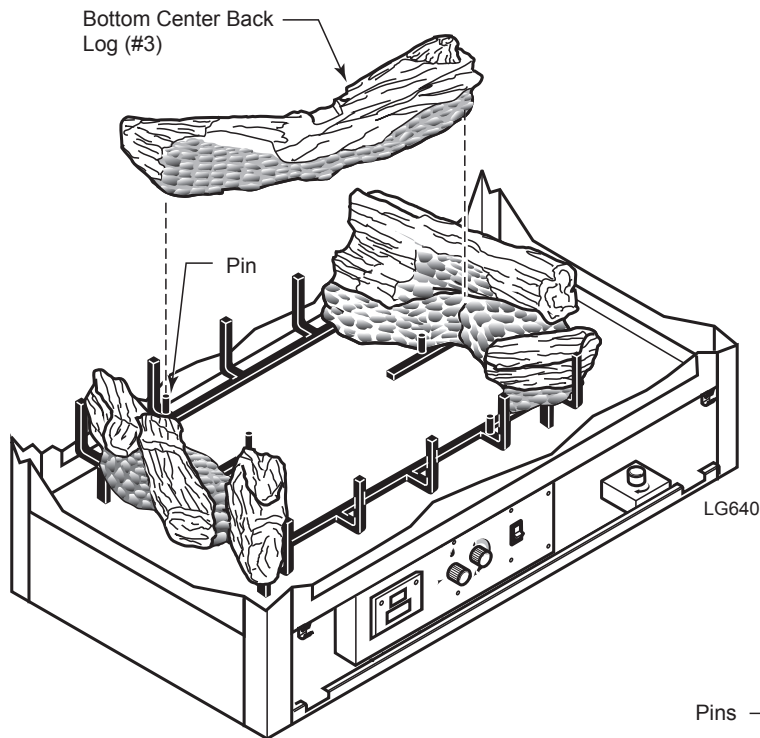

Figure 43 -
5. Position left end of bottom center back log (#3) beside rear end of left log (#1). Line up pin on grate with pin hole in bottom of center back log (#3) Snug right end of bottom center back log (#3) to the middle of right log (#2). *Figure 43*